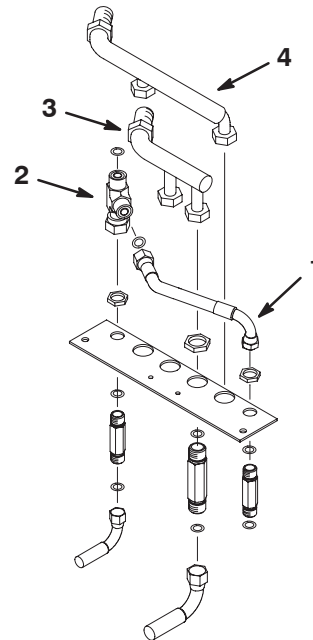

Figure 7
4. Install a Tee fitting to the rear bulkhead plate as shown in figure. 7.
5. Install the bulkhead hose as shown in figure. 7.